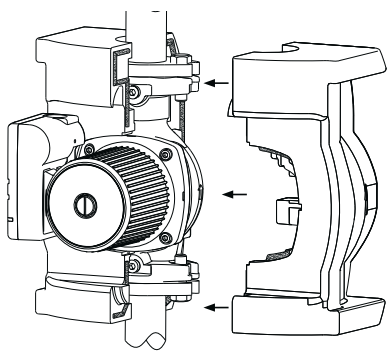

Fig. 6 Insulation shell installation (dotted areas indicate sealant)
3. Mate the two insulation shells over the pump volute as illustrated in fig. 6. If the shells do not mate; flange bolts are installed in the wrong direction, review step one and or switch mating shell location.